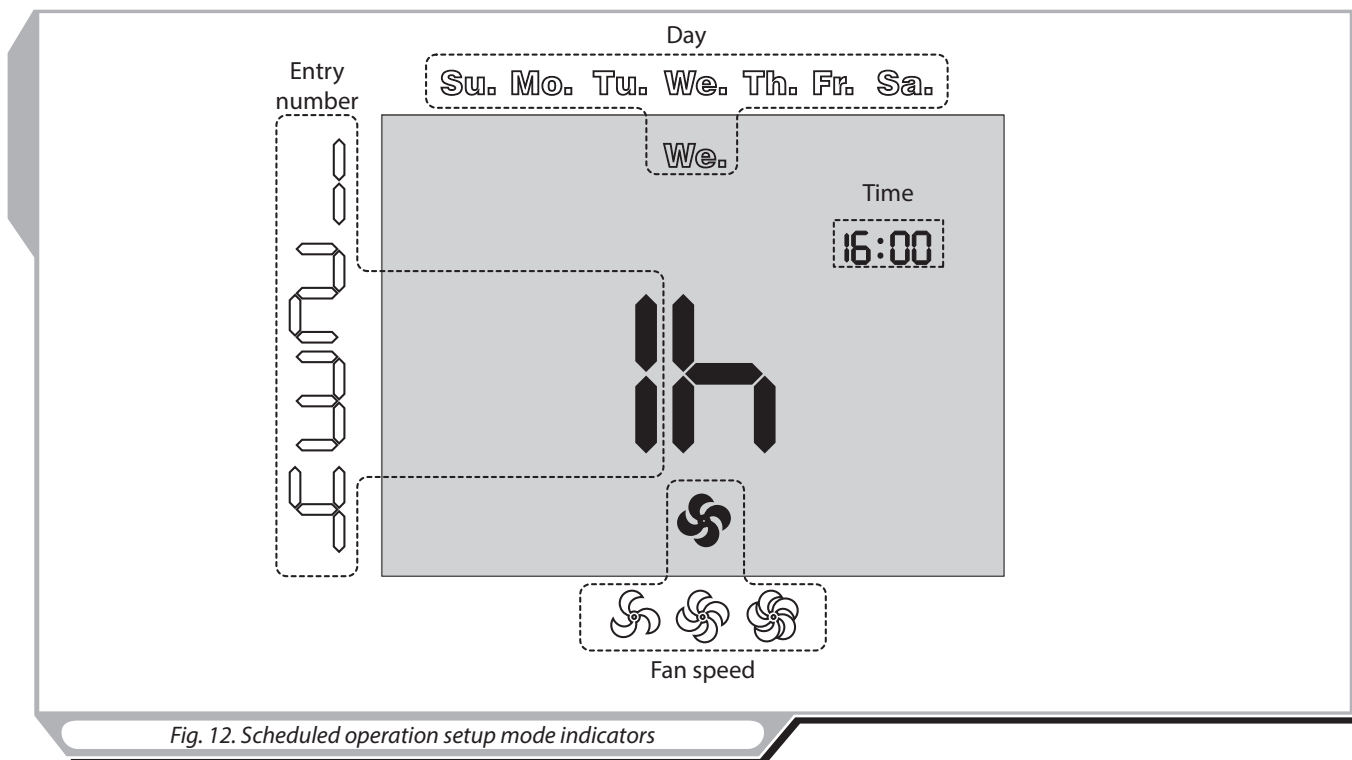

Fig. 12. Scheduled operation setup mode indicators
- Scheduled operation setup mode parameters (Fig. 12):